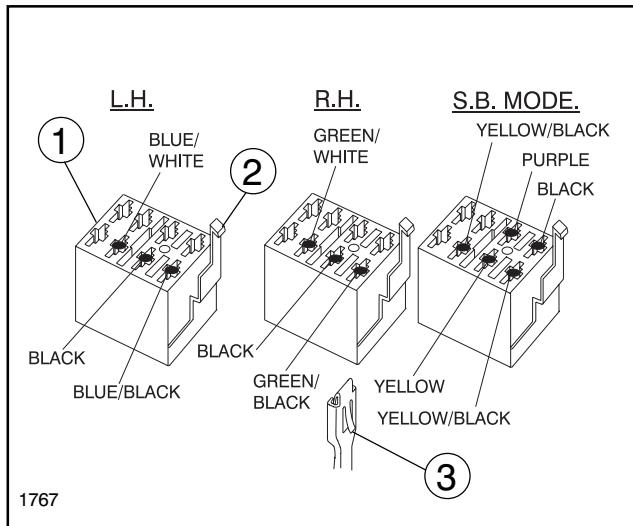

FIG. 18
d. Install the terminals/wires into the sockets of the new Connector Housings, provided, as shown in FIG. 18. Places all the wires from each group into a single Connector Housing. Orientate the terminals as shown in FIG. 18, with the Tangs facing in the direction of the Locking Arm. Firmly press the terminals into the sockets.